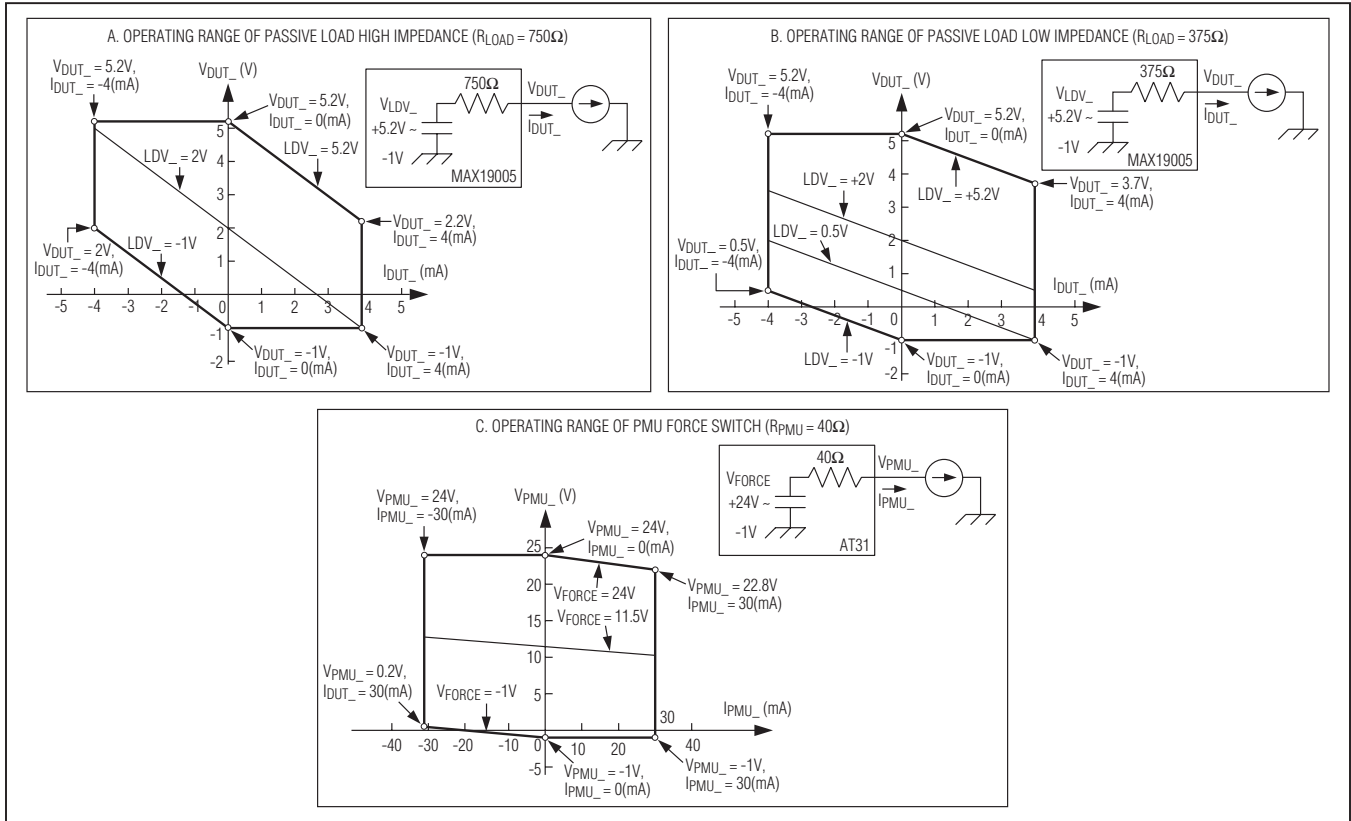

Figure 1. Operating Ranges
- Note 8:** At this pulse width, the output reaches at least 90% of its nominal (DC) amplitude. The pulse width is measured at DATA_.
- Note 13:** Operating output voltage/current range of passive load and PMU force switch at +24.6V supply. See Figure 1.